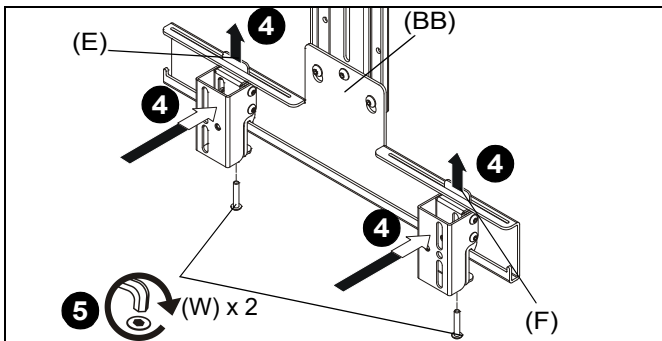

Figure 17
4. Install two speaker interfaces (E and F) to speaker bracket (BB) by sliding upper flanges of interfaces into long slots on speaker bracket and then pushing interfaces into position. (See Figure 17)
5. Use two #10-24 x 1 1/8" button head cap screws (W) to secure interfaces to speaker bracket at desired speaker position. (See Figure 17)